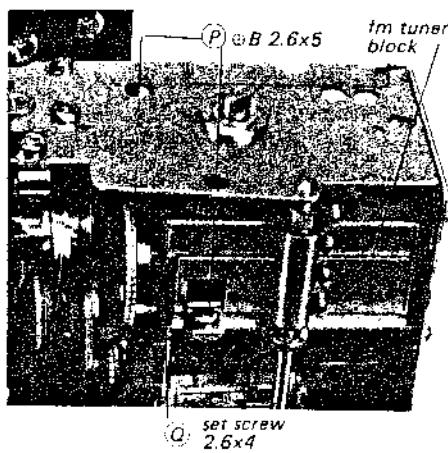

Fig. 2-14
2. Remove the two screws ($\Phi B 2.6 \times 5$) marked (P) in Fig. 2-14.
3. Loosen the two dial-tuning gear set screws (2.6×4) marked (Q) in Fig. 2-14.